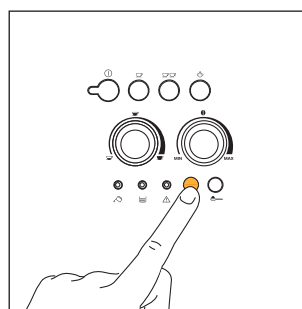

Fig.14
1) If, when the machine has just been turned on, a short cup of coffee is required (less than 60cc), use the hot rinsing water to pre-heat the cups (see the suggestion in par. 4.3, point 5). 1) If, when the machine has just been turned on, a short cup of coffee is required (less than 60cc), use the hot rinsing water to pre-heat the cups (see the suggestion in par. 4.3, point 5). If, on the other hand, more than 2/3 minutes have elapsed since the last coffee was made, before preparing **another coffee the infuser must be pre-heated, pressing the ☕/☕☕ button** (Fig. 14).